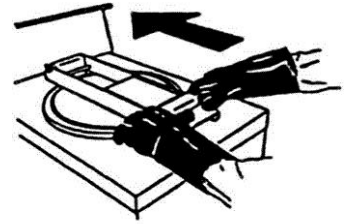

FIGURE 18
- C. Then, with the lid in lowered position use one hand to move handlebar to open (FIG 18).